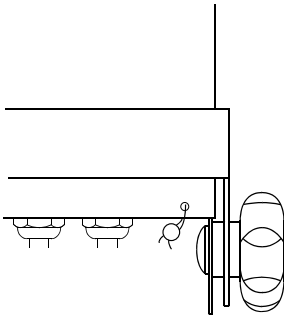

Figure 20 Exterior lead seal.
- 6 Seal the scale with an exterior lead seal as shown in Figure 20.